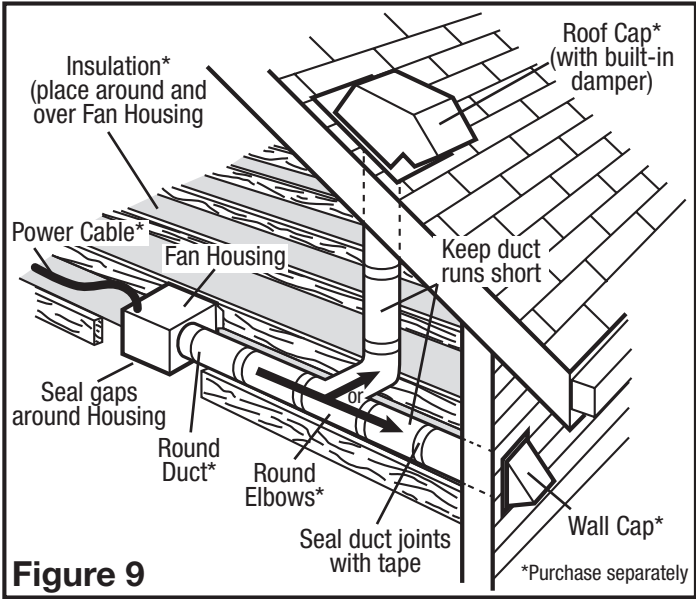

Figure 9
2. Ensure duct joints and exterior penetrations are sealed with caulk or other similar material to create an air-tight path to minimize building heat loss or gain and to reduce the potential for condensation. Place/wrap insulation around duct and/or fan to in order to minimize possible condensation buildup within the duct, as well as building heat loss or gain (Figure 9).